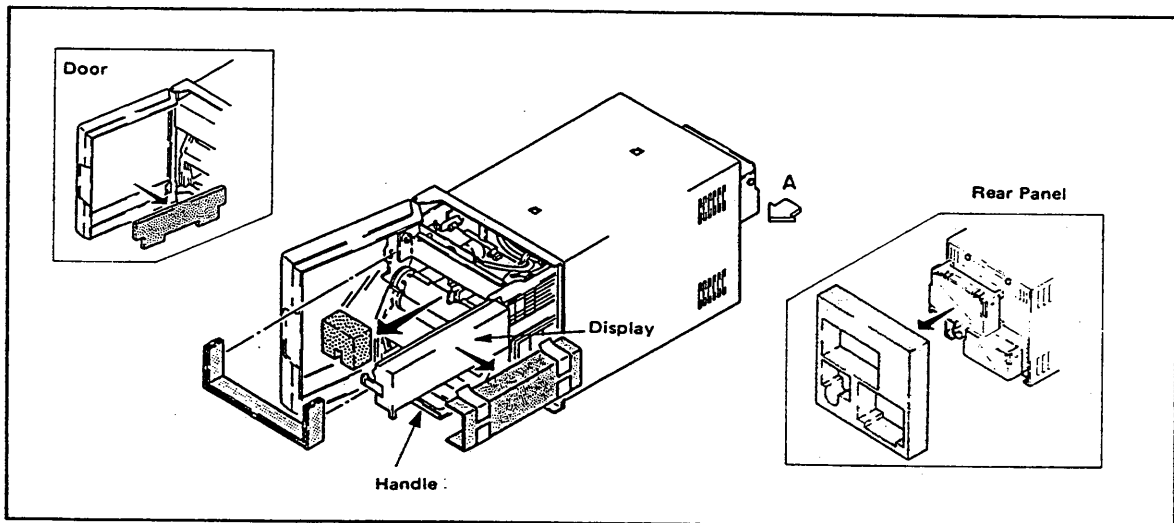

Figure 1-3.
- ② Open the instrument front door by inserting fingertips into the recess on the right front and pull outwards pull out the internal assembly handle, located at the bottom front of the internal assembly, as far as possible. Swing open the display door by grasping the small tab located at the lower left front corner of the display cover, gently pull outwards, and remove all the packing as shown in Figure 1-3.